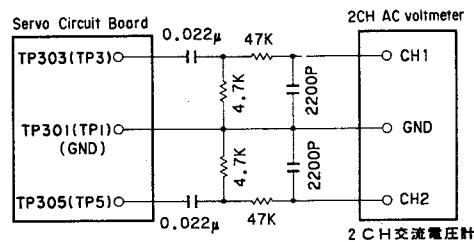

Fig. 3
- ① Place the test disc TX911730 (SONY YEDS-18) on the turntable and hold disc in place with depressor weight.
- ② Connect the oscilloscope probe to TP306 (Tracking error signal) and TP301 (GND).
- ③ Connect the test filter and two CHANNEL AC voltmeter to the Servo circuit board as shown in fig. 3 (CH1=TP303, CH2=TP305 and GND=TP301).
- ④ Select Mode 5 (ref. page 14).